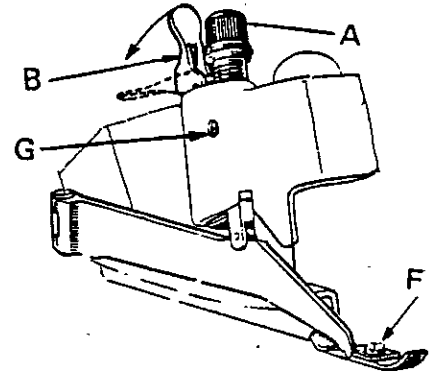

fig. 19
4. Lower lever B as far as it will go (fig. 19).
#### c) Positioning and adjustment of presserfoot (fig. 19)